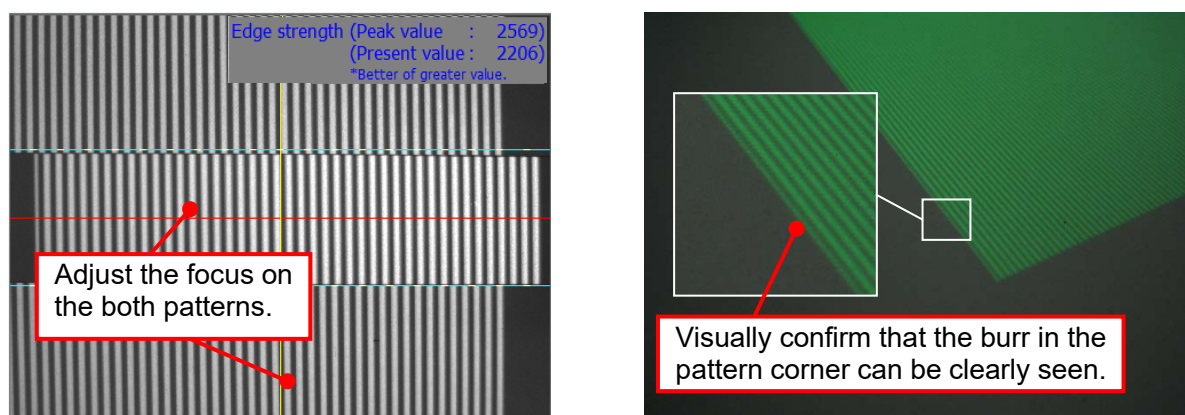

Fig. 7-52 Temporary projector focus adjustment
- Set up the checkerboard in such a way that the target subject within the red frame of Fig. 7-52 is included within the photographic image.